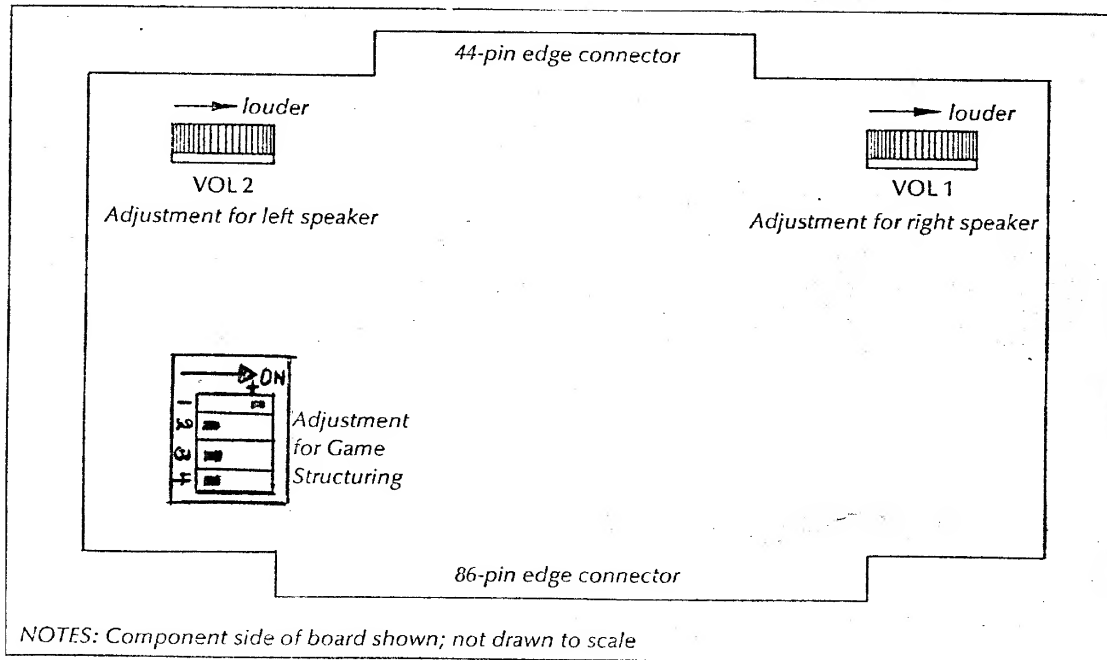

Figure 4-1 Adjustments on Audio and Switch Matrix PCB
- 1.) Revised table 4-1 and figure 4-1